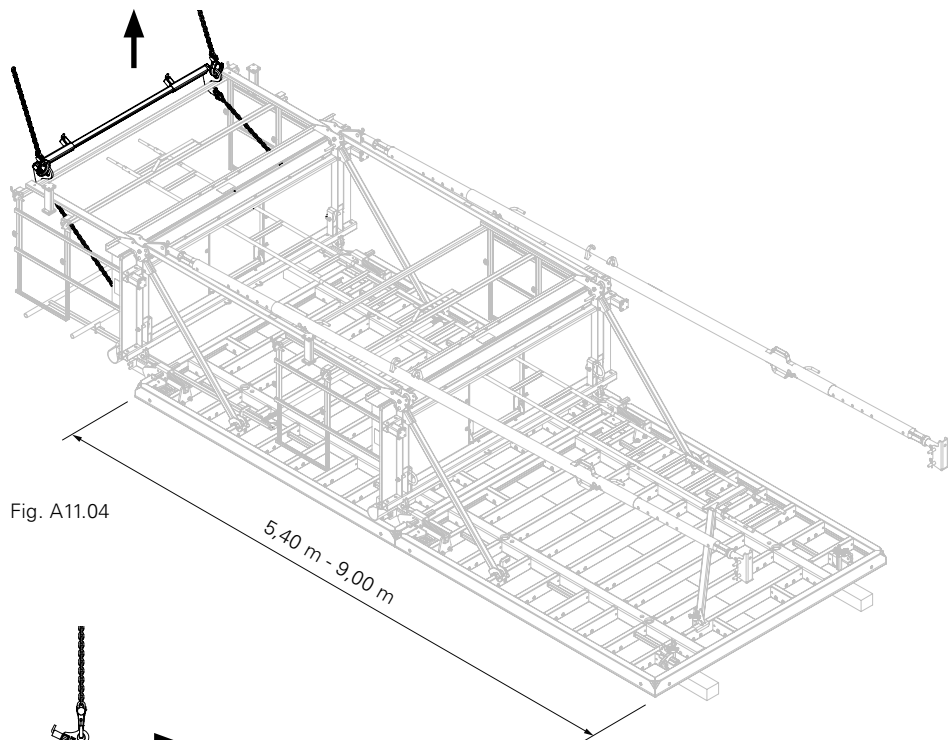

Fig. A11.04
2. Pull the panel unit upwards. In so doing, the connecting link is released from the guardrail post and the panel unit is erected via the Erection Device MXP. (Fig. A11.04)